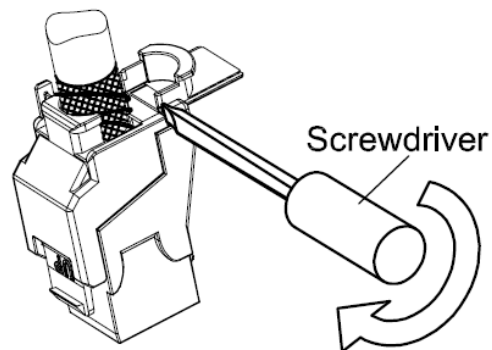

Fig. 16
- 2) Pull out the shielding lug. Insert the screw driver into the slot and rotate it to open the jaw (Fig 16)